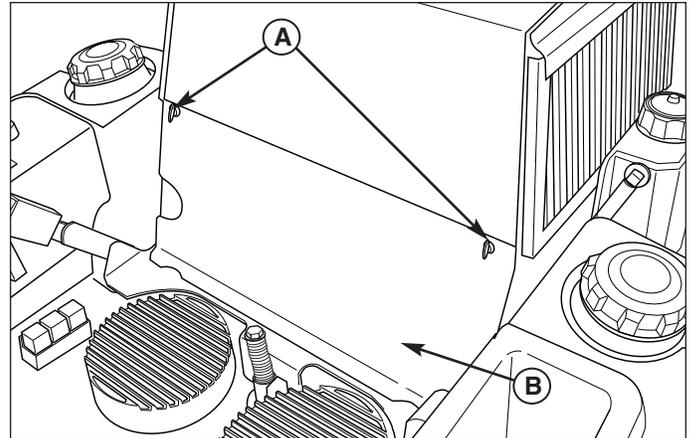
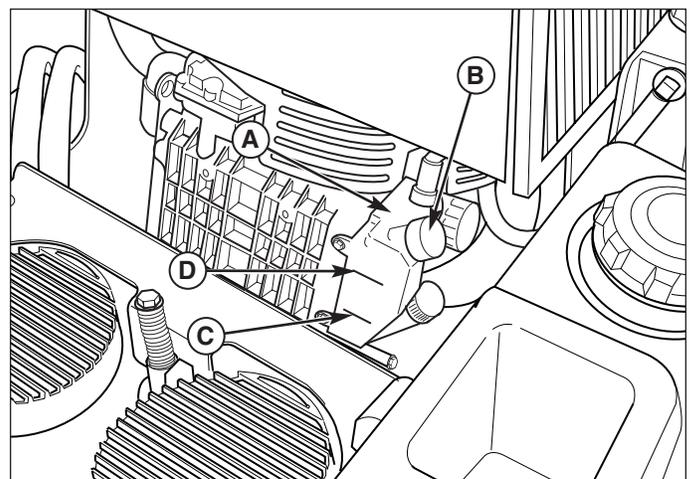

Figure 13. Remove Engine Access Panel
Figure 15. Checking The Engine Coolant Level
2. Tip the seat forward and loosen the thumb bolts (A, Figure 13) that secure the engine access panel (B). Remove the engine access panel.
1. Check the coolant level only at the overflow reservoir (A, Figure 15). The coolant level should be at the LOW (COLD) mark.
2. If the coolant level is insufficient, remove the cap (B) from the reservoir and add coolant to the "H" mark.
4. Reinstall the engine access cover and tighten the thumb screws (see figure 13).